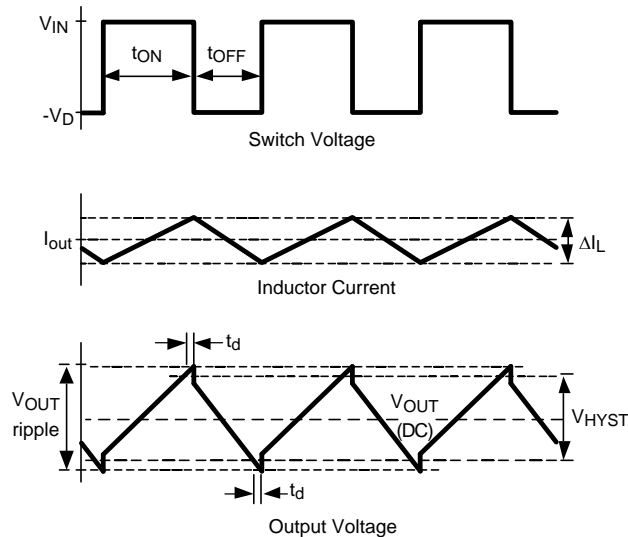

Figure 12. Hysteretic Waveforms
- $toff_{min}$ is the sum of the blanking time, the propagation delay time, and the PFET delay time (see Figure 12) (2)
Capacitors with high ESL (equivalent series inductance) values should not be used. As shown in Figure 12, the output ripple voltage contains a small step at both the high and low peaks. This step is caused by and is directly proportional to the output capacitor's ESL. A large ESL, such as in an electrolytic capacitor, can create a step large enough to cause abnormal switching behavior.